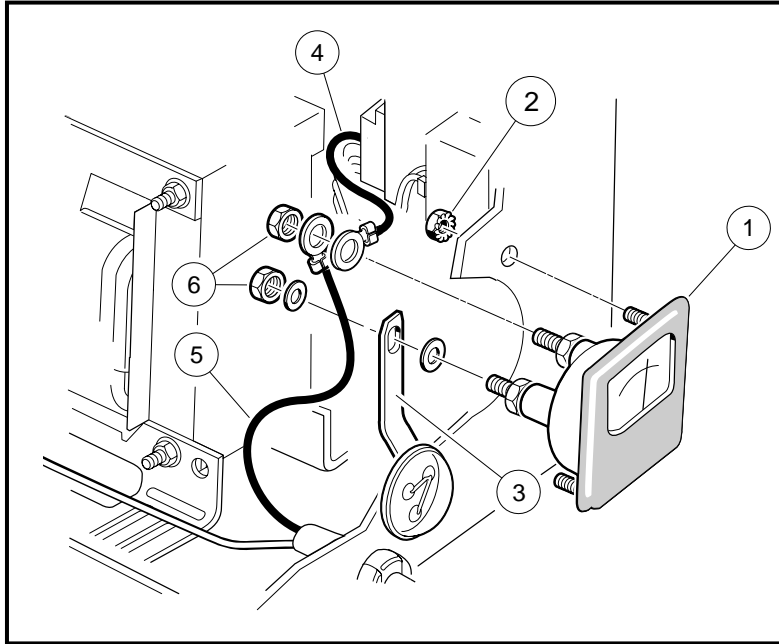

Figure 14-18 Ammeter
2. Disconnect all wires (4 and 5) and the bus bar (3) from the ammeter posts (**Figure 14-18, Page 14-20**).
3. Remove nuts (2) attaching ammeter to charger face, and remove the ammeter (**Figure 14-18, Page 14-20**).
3. Connect the black wire (4) of the electronic timer kit and the black wire (5) of the DC cord to the left post of the ammeter (when viewed from the rear of the charger) **(Figure 14-18, Page 14-20).**